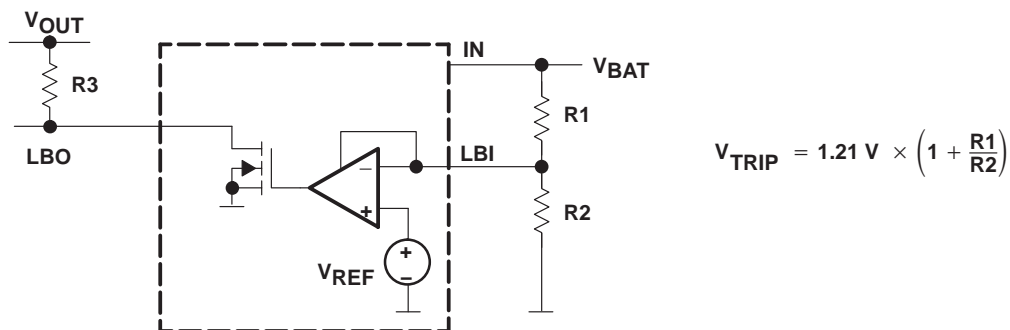

Figure 1. Programming of the Low-Battery Comparator Trip Voltage
**DISSIPATION RATING TABLE FREE-AIR TEMPERATURE (see Figure 1)**